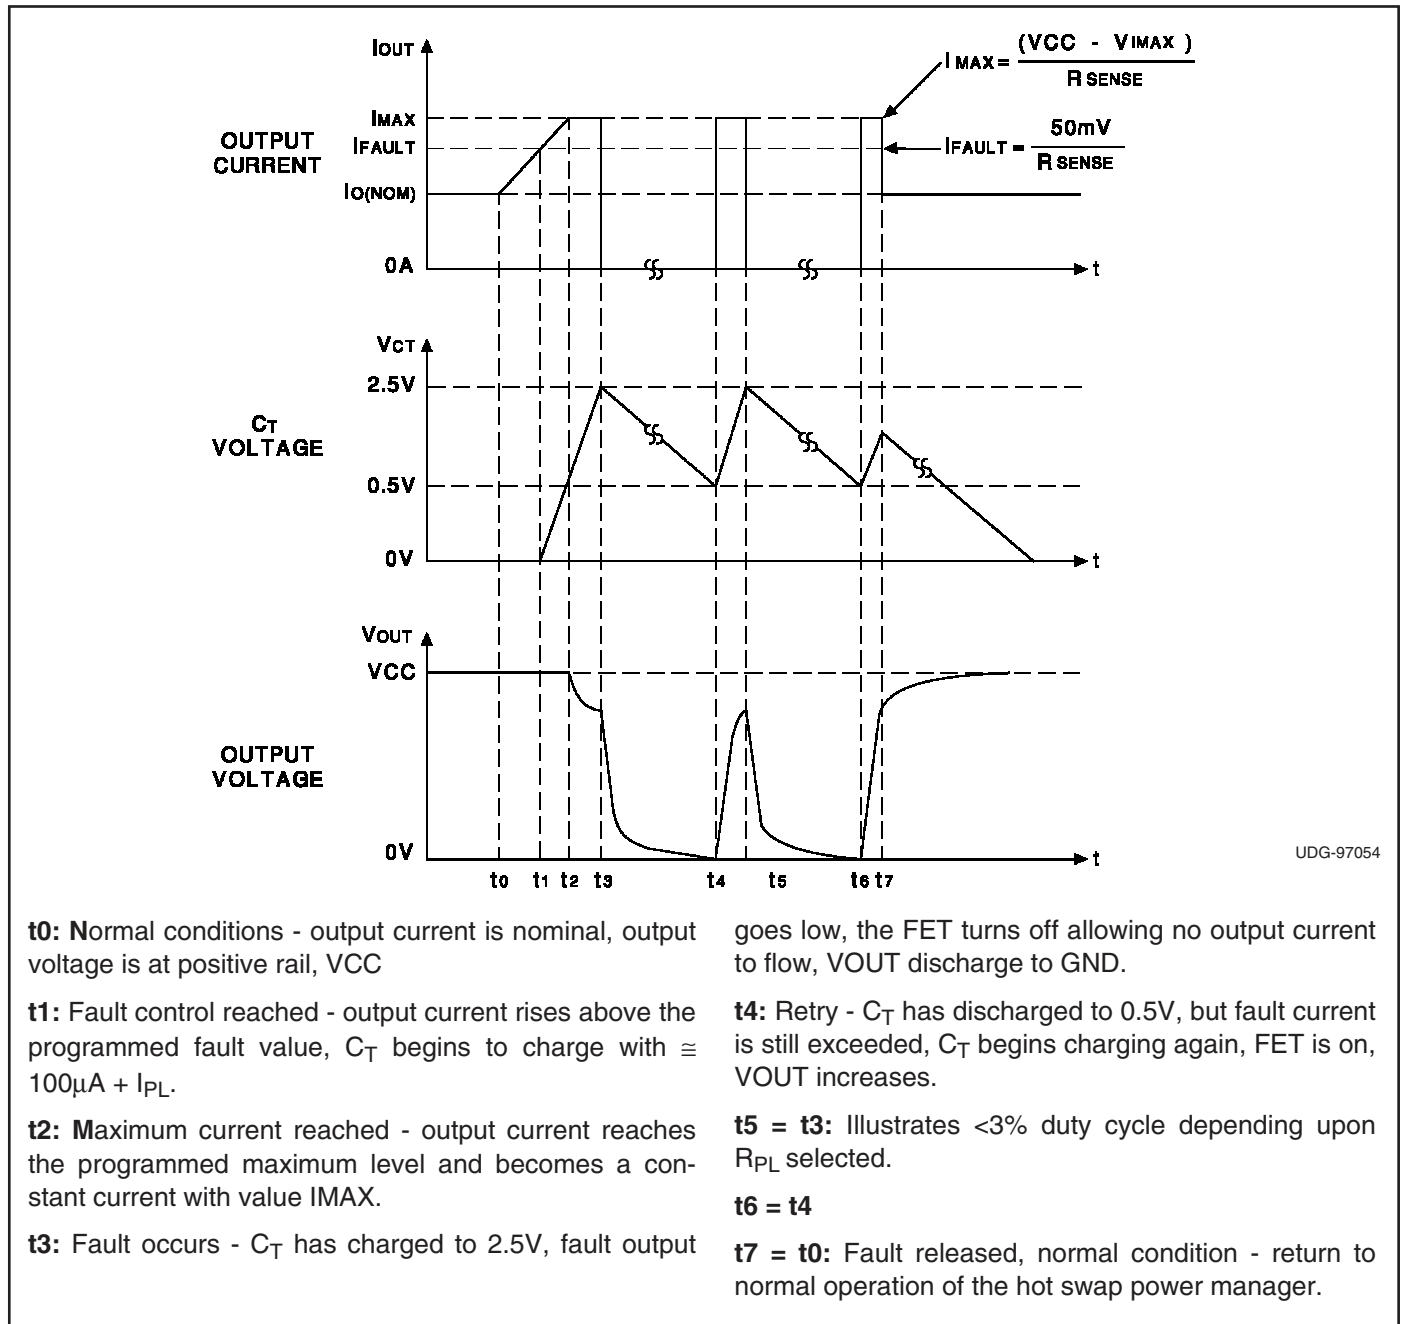

Figure 3a: Typical timing diagram.
Fig. 3a shows typical fault timing waveforms for the external NMOS output current, the voltage on the CT pin, and the output load voltage,  $V_{OUT}$ , with LR left floating or grounded. The output voltage waveforms have assumed an RC characteristic load and time constants will vary depending upon the component values. Prior to time  $t_0$ , the load is fully charged to almost VCC and the NMOS is supplying the current,  $I_O$ , to the load. At  $t_0$ , the current begins to ramp up due to a change in the load conditions until, at  $t_1$ , the fault current level,  $I_{FAULT}$ , has been reached to cause switch S1 to close. This results in  $C_T$
Fig. 3b shows fault timing waveforms similar to those depicted in Fig. 3a except that the latch reset (LR) function is utilized. Operation is the same as described above until t4 when the voltage on CT reaches the reset threshold. Holding LR high prevents the latch from being reset, preventing the IC from performing a retry (sourcing current to the load). The UC3914 is latched off until either LR is pulled to a logic low, or the chip is forced into an under voltage lockout (UVLO) condition and back out of UVLO causing the latch to automatically perform a power on reset. Fig. 3b illustrates LR being toggled low at t5, causing the part to perform a retry. Time t6 again illustrates what happens when a fault is detected. The LR pin is toggled low and back high at time t7, prior to the voltage on the CT pin hitting the reset threshold. This information tells the UC3914 to allow the part to perform a retry when the lower reset threshold is reached, which occurs at t8. Time t9 corresponds to when load conditions change to where a fault is not present as described for Fig. 3a.